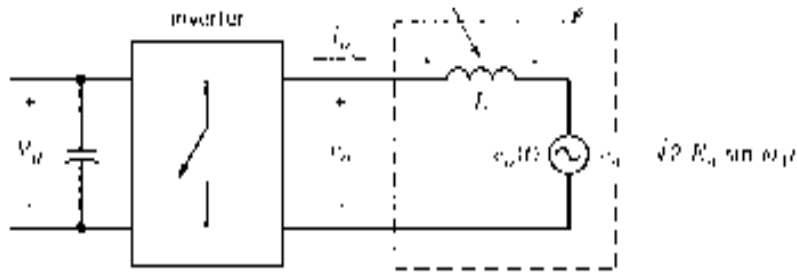

Figure 4
a) (15) Select the transformer turn ratio N_2/N_1 , the magnetising inductance L_m and the output capacitance C . You may assume that the maximum duty cycle value is 0.5. The voltage drop across the diode when it is in on-state is 1V.
b) (5) Sketch the waveforms and calculate RMS and DC values of the transistor and output diode current at the nominal operating point.
c) (5) Sketch the waveforms and calculate the maximum voltages across the transistor and output diode.
4. Figure 4 shows the inverter that contains a full-bridge voltage source converter.